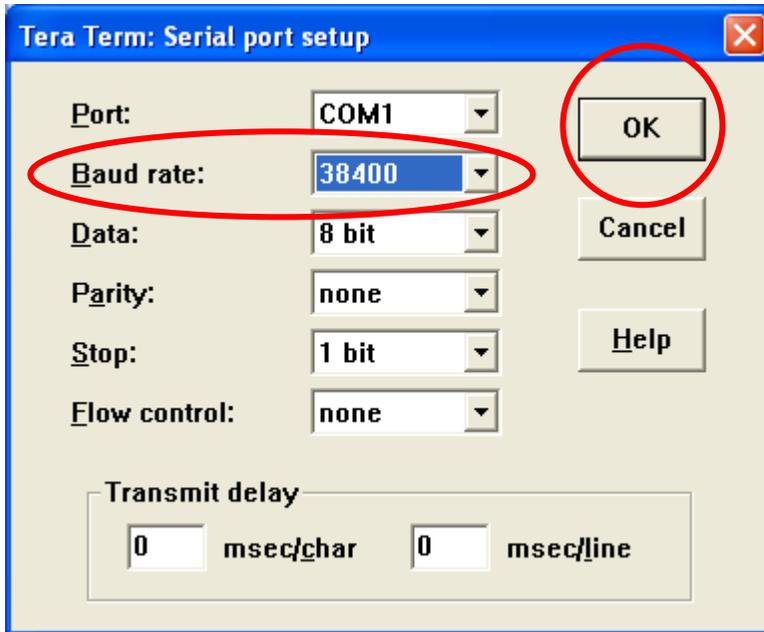

Figure 110:
10. On Main Window, go to Setup > Serial port. The following window will appear (Figure 110) Change the "Baud Rate" to 38400 and press 'OK'.